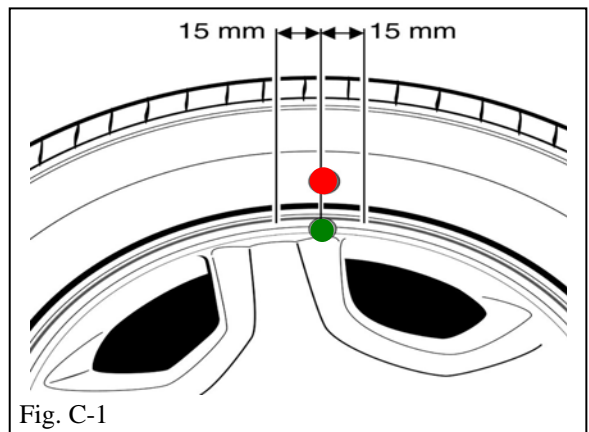

Fig. C-1
-  1. Use tire lube around bead location on wheel prior to mounting the tire. Remount OE tire on alloy wheel, matching tire high spot (red dot) with that of wheel low spot (green sticker). The red dot on tire and green dot on wheel must be aligned to within ± 15 mm center to center. (Fig. C-1)